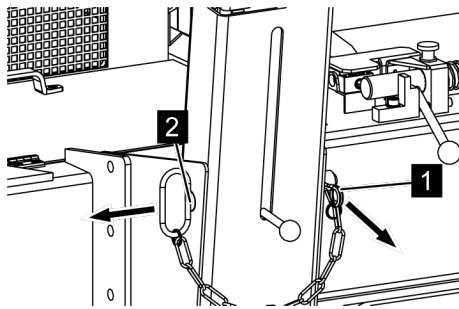

Fig. 75: Fastening bolts
2. ➔ Pull the spring cotter pin (Fig. 75/1) out of the fastening bolts (Fig. 75/2).
3. ➔ Pull out the fastening bolts (Fig. 75/2).